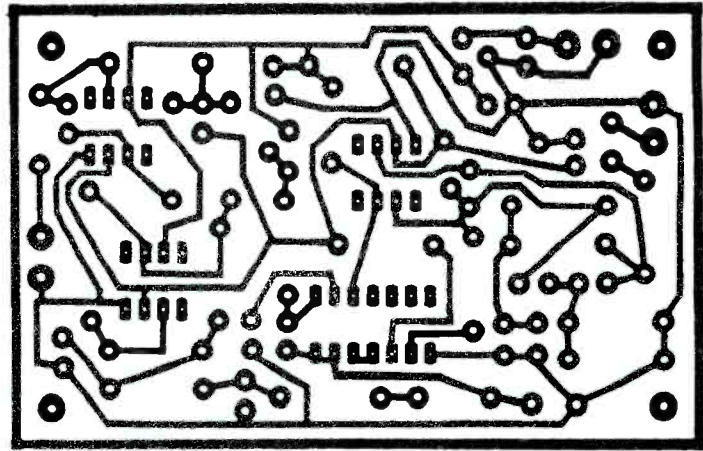

Fig. 3. Full-size PC artwork for the SCA Adapter. Its use is recommended.
**PCB Assembly.** The printed-circuit board for the project (see Fig. 3) measures just 3-5/8 x 2-1/4-inch and will help ease assembly if made. Point-to-point assembly can be used but will be a bit difficult to perform accurately.
**Construction.** Because both units include RF circuitry, printed-circuit boards are recommended. Full-sized templates of the printed-circuit boards for Personal Pocket Pager's transmitter and receiver (respectively) are shown in Figs. 3 and 4. You can etch your own, or you can purchase etched and drilled boards from the source given in the Parts List.